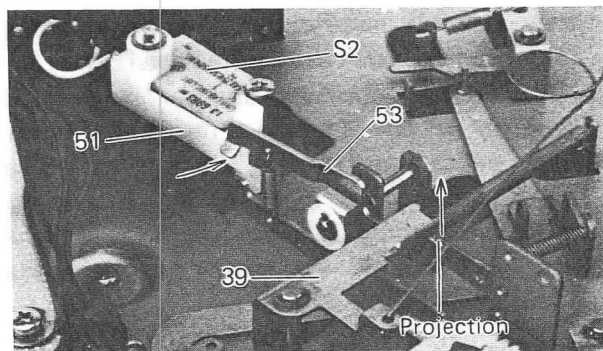

Figure 9
- (1) Microswitch (S2) starts or stops the DC Motor (M1).
- (2) Before starting, the sloped edge of the GEAR (44) pushes up the lower Switch Lever (52). The Spring (54) between lower Switch Lever (52) and upper Switch Lever (53) causes the upper Switch Lever (53) to descend. It does not descend as the other end of the upper Switch Lever (53) is pressed down by the Lever Switch (39). So the Plastic lever (51) does not push the Microswitch (S2) ON.
- (3) When the Function lever is set to START, the Lever Switch (39) turns and releases the upper Switch Lever (53). The Lever Switch is held in that position with the projection of the upper Lever (53). Then the upper Lever (53) pushes and holds the plastic Lever (51) to keep the Microswitch ON. (Figure 9)